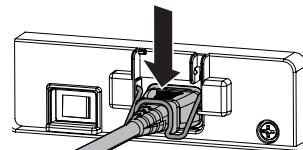

Fig.4
- 4) Press down the power cord holder until the end of the power cord holder snaps onto the power cord to secure the power cord. (Fig. 4)